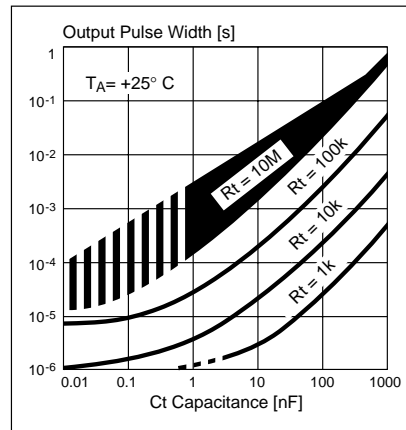

Figure 21. Typical t_{on} vs. C_T/R_T . Output pulse width vs. capacitance/resistance
- Figure 21 shows the relationship between C_T , R_T , and t_{On} . Care must be taken to keep the t_{On} time short, otherwise the current in the winding will rise to a value many times the rated current, causing an overheated IC or motor.